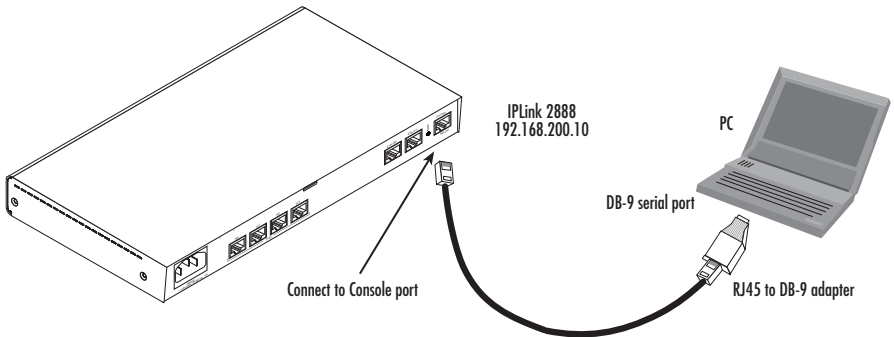

Figure 4. Connecting to the PC's Console port
1. To access the OnSite configuration via the console port, connect the DB9-RJ45 adapter to the DB-9 serial port on the PC or dumb terminal. Use the RJ45 straight-through cable between the adapter and the console port on the 2888. (see Figure 4).